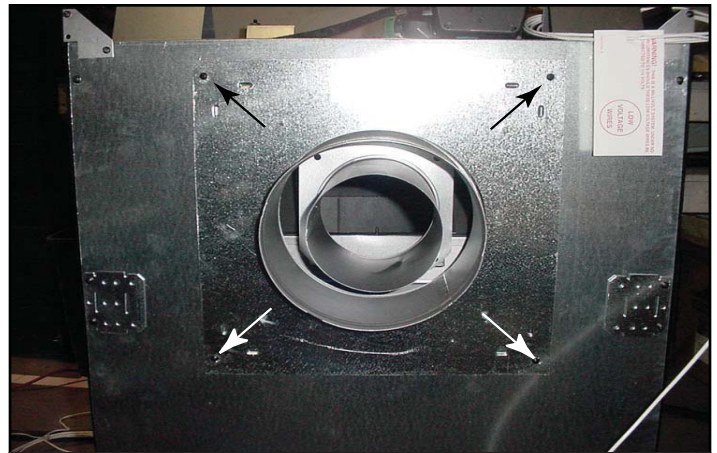

Figure 7.9 Attach Cover Plate
- Locate the cover plate removed in the first step. Place plate around rear vented collars and replace four screws to hold plate in place. See Figure 7.9.